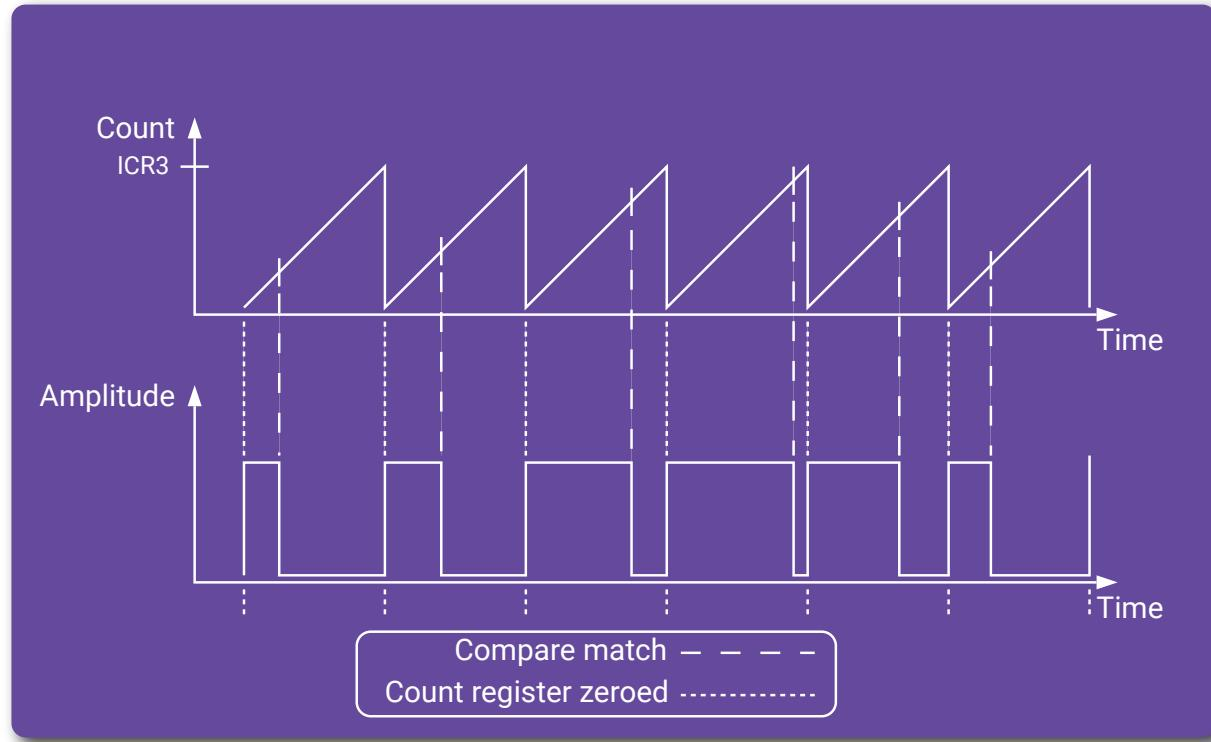

Figure 3.2: Pulse width modulation with an AVR timer/counter.
There are several varieties of a PWM signal that can be generated with an AVR timer/counter. Here is a description on how to initialize timer/counter 3 to generate “fast PWM.” For that purpose an output compare register, `OCR3A` or `OCR3B`, is used together with the counter value register. The desired behaviour is as follows. When the counter value register is zero, the selected `OCR3` pin is set to high. As the timer increments the value, it is constantly compared with the value of the output compare register. When they match, the `OCR3` pin is cleared (set to low). When the counter value is the same as the value in register `ICR3` the timer/counter overflows and the output pin is set to high. After this the procedure starts again. See Figure 3.2 and 3.3.
- Select Fast PWM with ICR3 as top by setting the Waveform Generation Mode Bits WGM30, WGM31, WGM32 and WGM33 accordingly. See Table 17-11 on page 188-189 in the data sheet. Having ICR3 as top means that at this value the timer will restart, that is, clearing the counter register and start from zero again. See Figure 3.2. The Waveform Generation Mode Bits can be found in control register A and B.